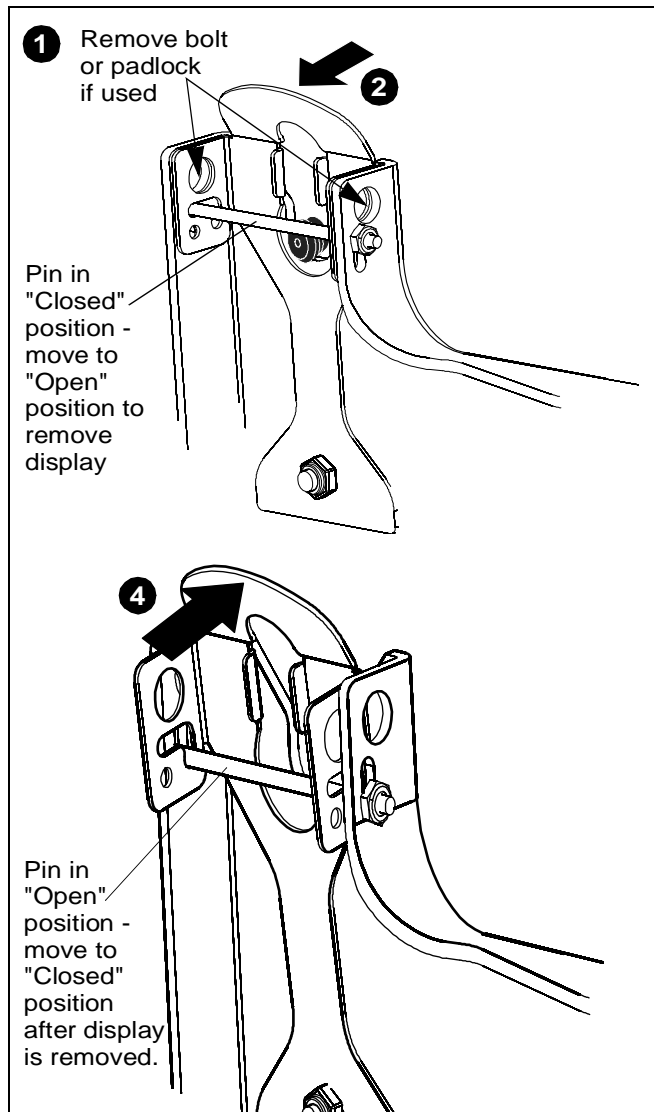

Figure 14
(See Figure 14)
2. Pull back on flag on upper mounting hole and press pin down into "Open" position. (See Figure 14)
4. Lift up on pin and place flag back against faceplate to return it to "Closed" position. (See Figure 14)